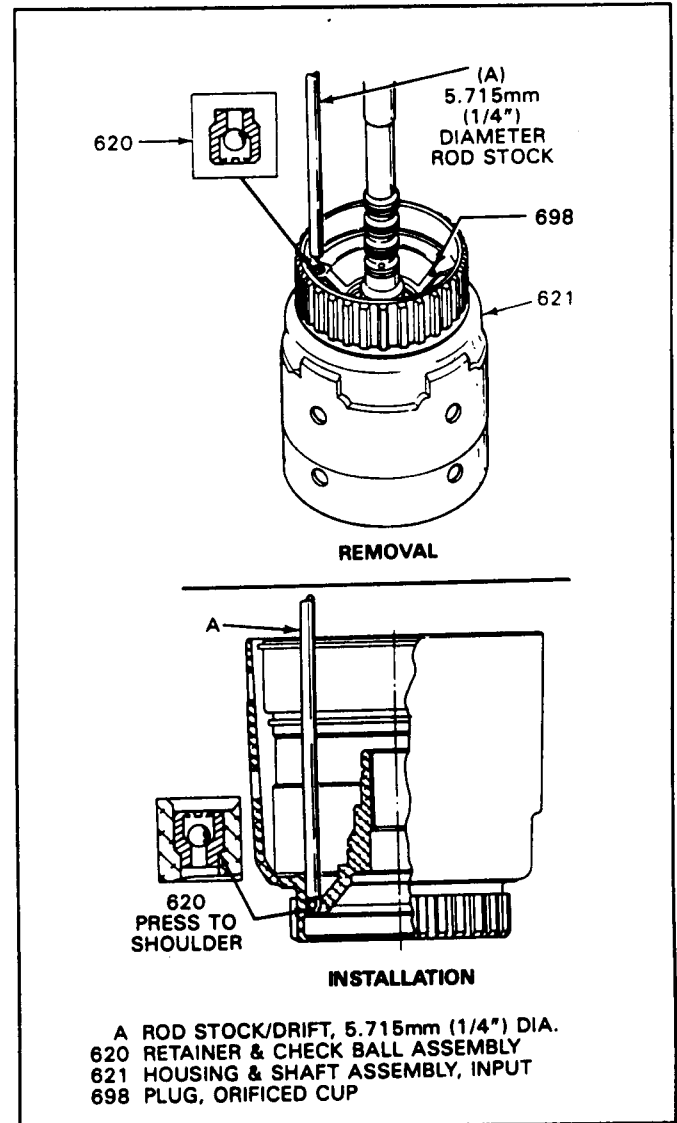

Figure 114
2. If replacement is necessary, use a 1/4" drift punch and hammer to remove and replace the capsule assembly, as shown in Figure 114.
3. OEM part number for the input housing ball capsule is 8654438 (Figure 114).